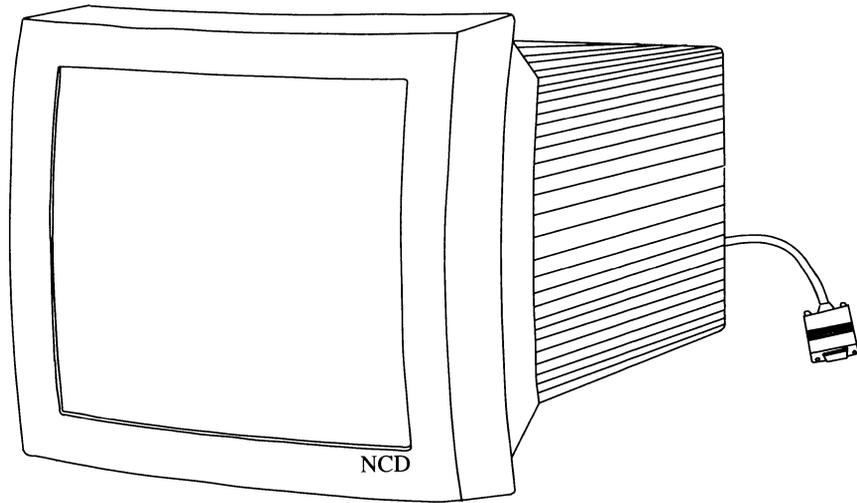

Figure 2-2. Display Monitor
- Display Monitor — See Figure 2-2